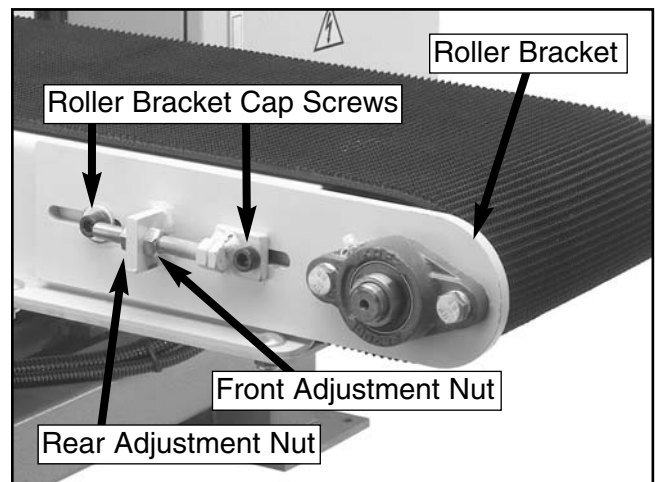

Figure 41. Roller bracket cap screws and adjustment nuts.
1. Loosen the two roller bracket cap screws (shown in **Figure 41**) about $\frac{3}{4}$ of a turn. Do this on the both sides of the conveyor.